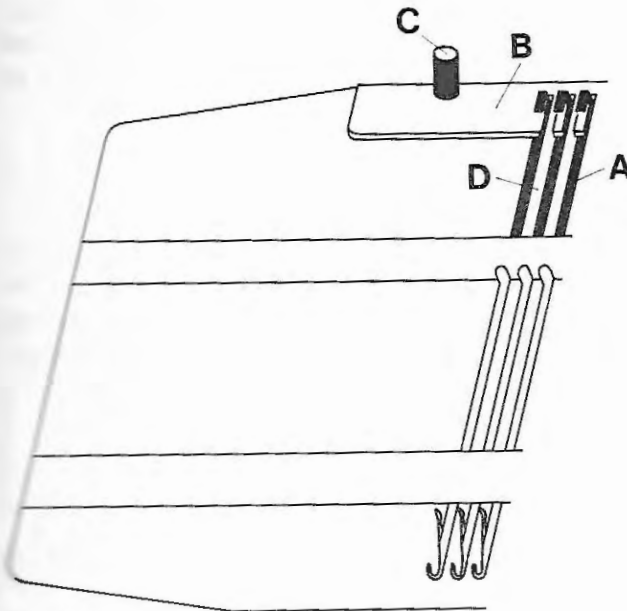

Fig. 79
There are 179 of these pushers in the pusher bed (A). In a way, each pusher is the extension of the latch needle lying in front of it in the needle bed. Fig. 79
In order to put a pusher into Working Position, the blocking rail (B) must be opened and, according to fig. 79 and 80, the pusher must be moved out of the rail as follows: